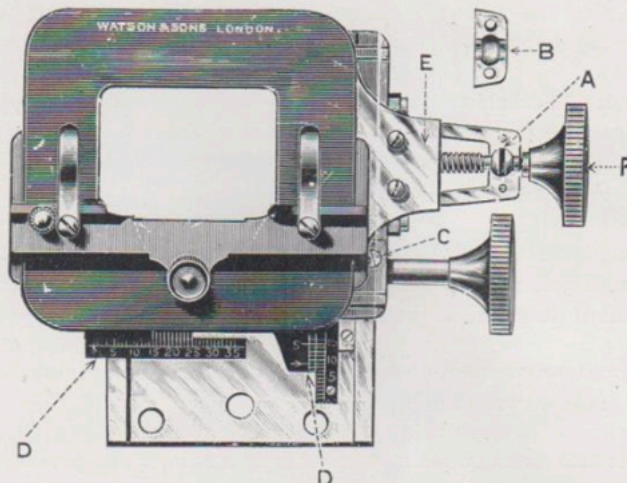

Fig. 3. Surface view of the Watson Standard Stage showing sliding-bar, scales and verniers, and method of fitting stationary milled head.
The Stage surface is in full view, Fig. 3, and the manner in which the movements are effected will be plainly seen. The horizontal travel to the Stage is made by the rotation of the **stationary** milled head F, that is, it does not move with the traversing plates of the Stage. The plate E is connected with the long screw operated by the milled head F, and the screw is supported by a slotted collar, which gives adjustment for wear. To give the smoothest possible motion, the screw has a ball fitting (A): in this is a groove, which acts as a receptacle for foreign matter. The little plate B fits over the ball, and is so attached that no internal shake takes place. C is the adjusting screw for regulating the pressure of the pinion upon the rack in the vertical movement of the Stage. The Verniers D, Fig. 3, which can be used for measuring or for "finding" objects, are an extra costing, 30/-.